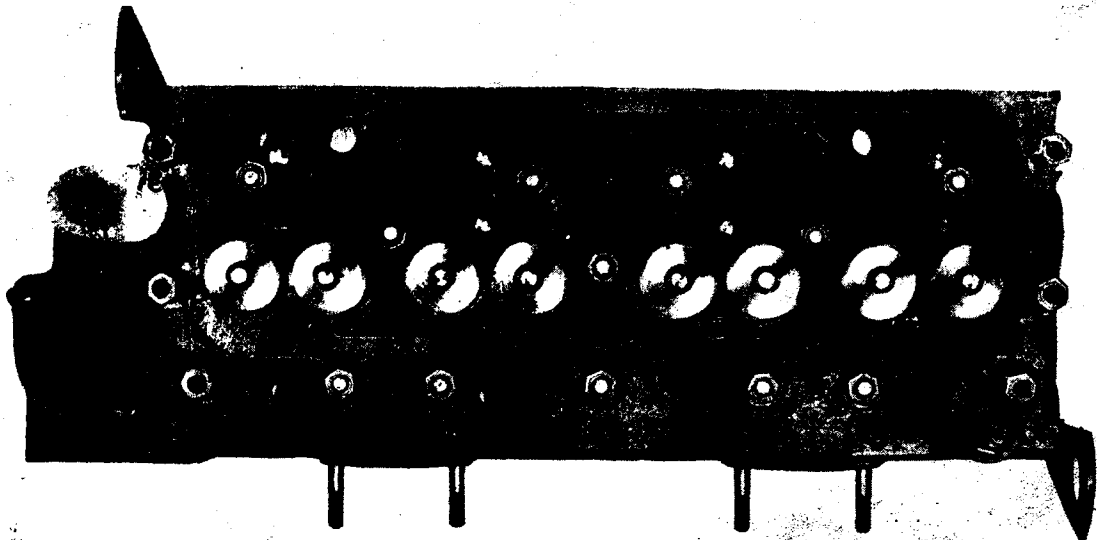

Fig. G.20.
3. Lubricate cylinder head studs and nuts, then tighten nuts progressively in three stages in the sequence shown in Fig. G.20, to the torque given on page B.2. This final torque tightening stage should be repeated.
- down and the cylinder head nuts again tightened to the correct torque in the sequence shown in Fig. G.20. (Refer to Note below).
It is essential that the cylinder head nuts are re-torqued to 60 lbf ft (8,3 kgf m) after the first 15-30 hours with the engine hot and in the sequence shown in Fig. G.20.